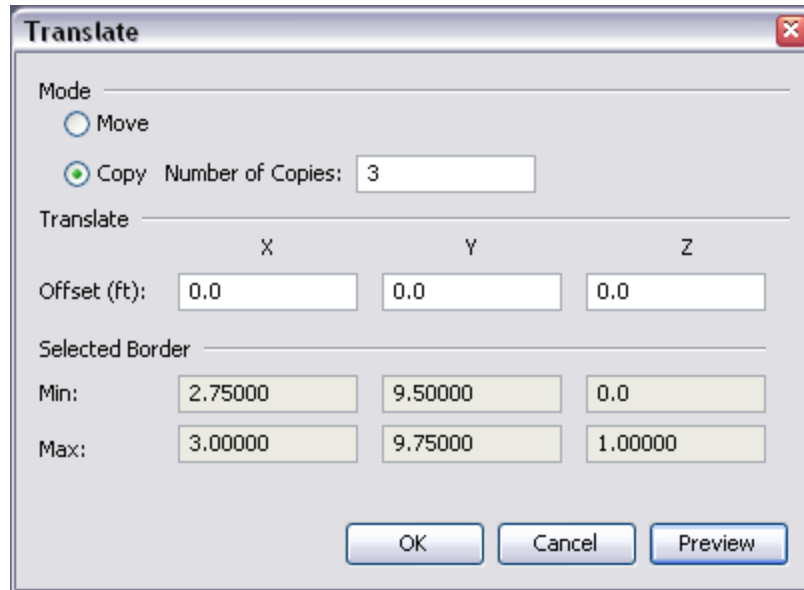

Figure 110. The translate dialog
3. This will show the Translate dialog, Figure 110.